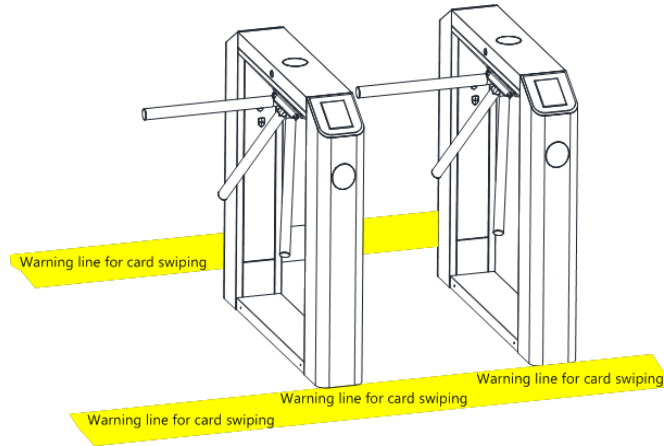

Figure 3-2
- Setting a warning line for card swiping (see figure 3-2). A warning line is suggested to prompt users to swipe cards in a distance, which would greatly reduce the probability of equipment failure caused by improper operations.